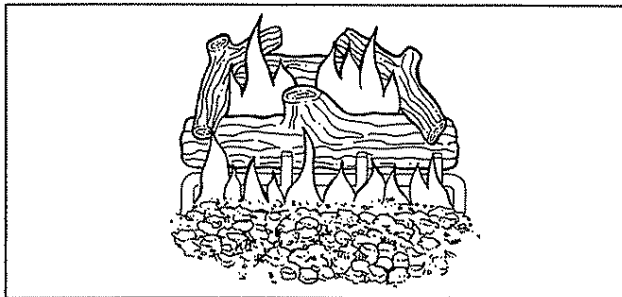

Fig. 24. Typical flame pattern.
Step 14. Clean the surround area of debris, ignite the main burner two or three times making sure that there is no ignitor delay and that flame looks similar to that in Fig. 24.